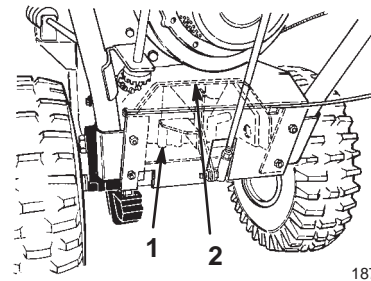

Figure 34
9. Loosen the 4 flange-head bolts (2 on each side) that secure the transmission frame to the engine frame (Figs. 34 and 35).